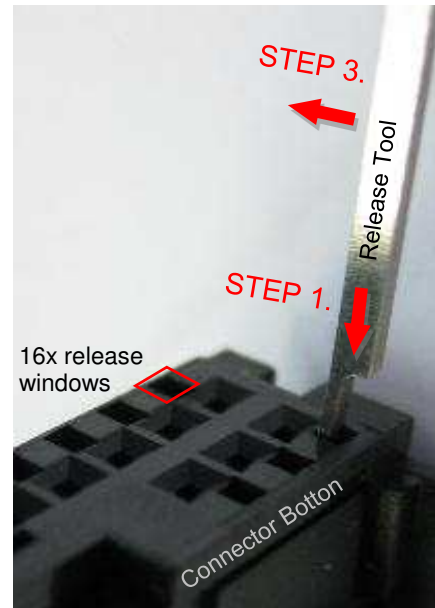

Figure 9: Release Tool in appropriate Window
1. Insert contact removal tool as shown in Figure 9.
3. Using the contact removal tool, gently deflect the retention finger as shown in Figure 9.